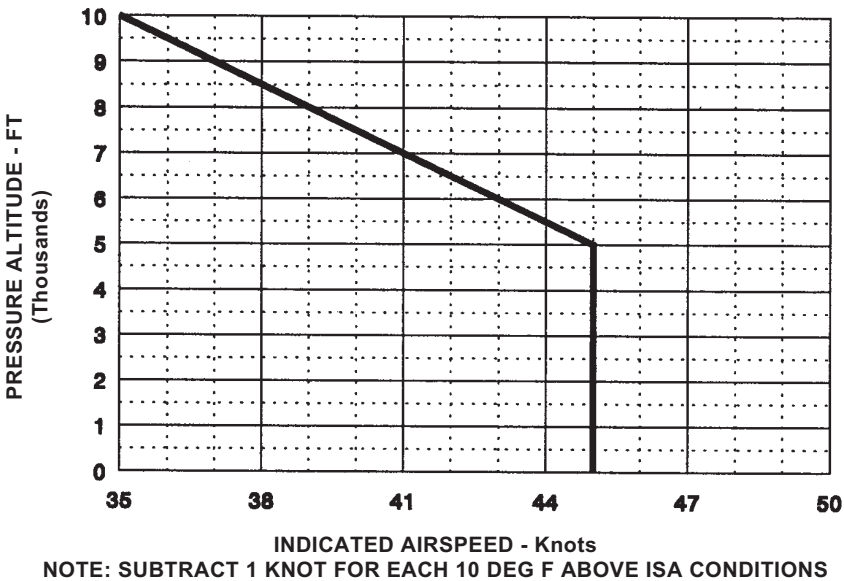

Figure 5-1. Best Rate of Climb Speed vs. Altitude
- Takeoff using maximum takeoff power at the speed for best rate of climb (Fig. 5-1).
- See Fig. 5-1 for speed for best rate of climb.